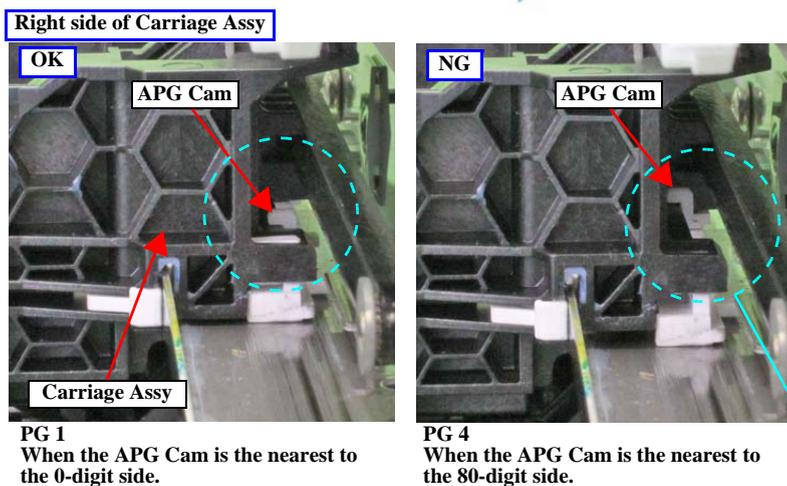

Figure 5-3. PG Position
2. From the 0-digit side between the Main Frame and Carriage Assy, check the APG Cam is as shown in "PG 1" in Figure 5-3.
5. Press the two points down vertically on the Carriage Assy shown in Figure 5-3 simultaneously, and make sure of the following.